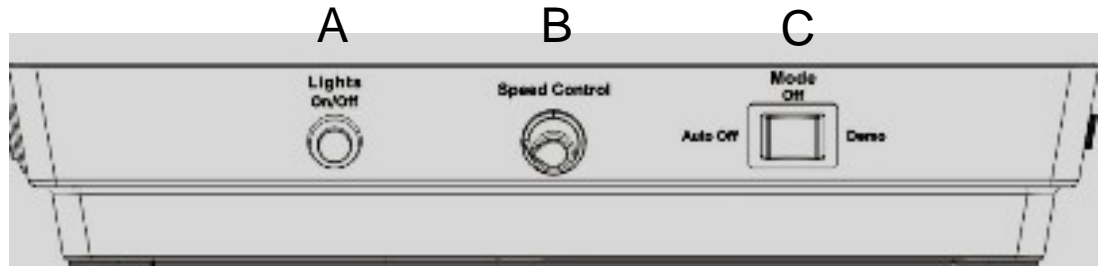

Fig. 7
- Set the Mode switch to demo to test the operation (See Fig. 7)
CONTROLS (Fig. 7)